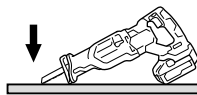

Fig. 27
- (1) Press the lower part (or the upper part) of the base against the material. Pull the switch trigger while keeping the tip of the saw blade apart from the material (**Fig. 27, Fig. 30**).